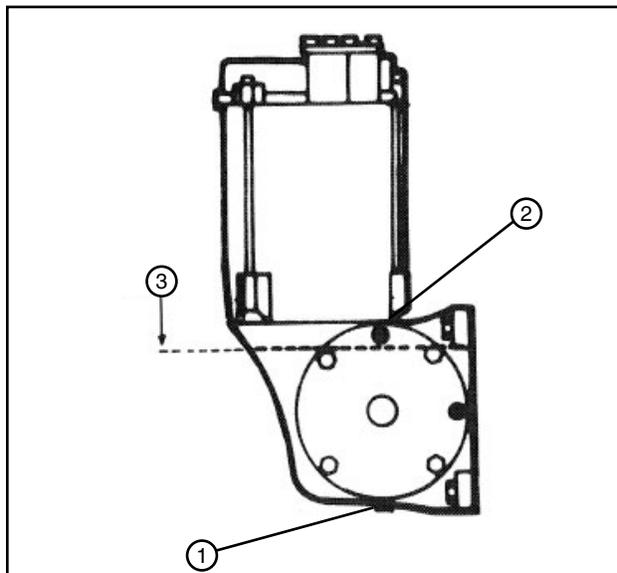

Figure 90-2 1. Drain Plug
1. Remove the drain plug and the fill plug. Drain the oil and install the drain plug. See Figure 90-2.
2. Fill the gearbox to within 1/2 in (12.7 mm) of the bottom of the fill plug hole with Valley Gear Lube. The capacity of the gearbox is approximately 1 quart (0.9 liter). See Figure 90-2.